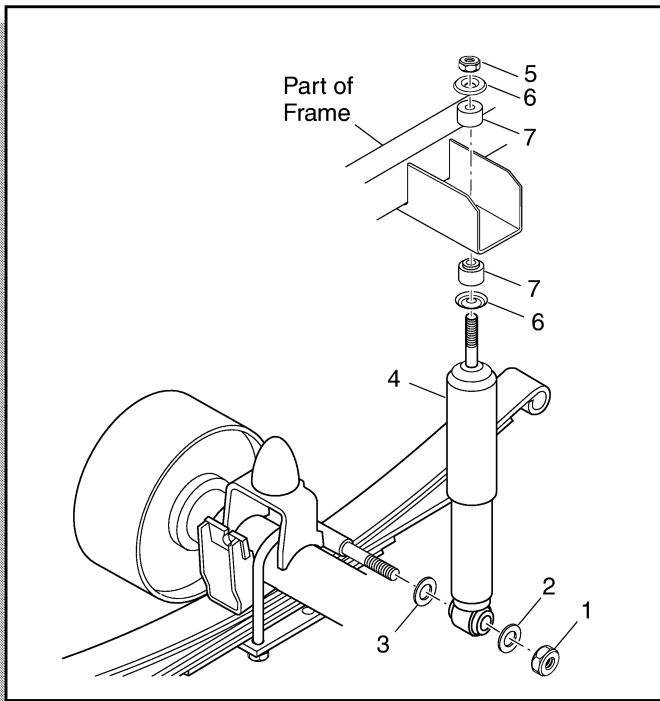

Fig. 1 Shock Absorber Replacement
| Fig. 1 Shock Absorber Replacement..... | M - 1 |
Compress the shock absorber (4). Remove the bottom shock absorber nut (1) and washer (2). Retain spacer (3) for use in reassembly (Ref Fig. 1 on page M-1). Remove the top shock absorber nut (5), washer (6) and bushing (7).